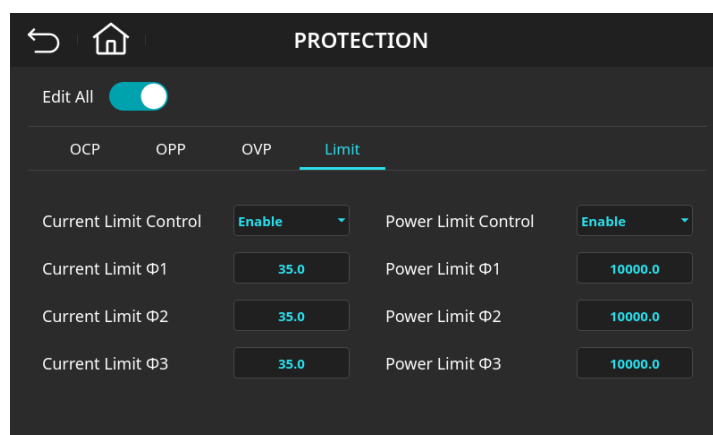

Figure 4-57 Output Current/Power Limit Protection Page (Current Limit $\Phi 1/\Phi 2/\Phi 3 = 35.0$ A, Power Limit $\Phi 1/\Phi 2/\Phi 3 = 10000.0$ VA)
8. Enter **1**, **0**, **0**, **0**, **0** then press **Enter** to change the value to “10000.0”, as shown in Figure 4-57.